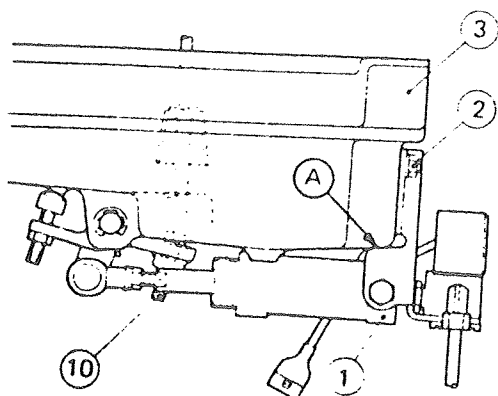

Fig. 31
- 2) Attach cylinder unit 1 to oil pan with bolts 2 making certain that the part A contacts oil pan. (Fig. 31)
- 2) Turn stopper 10 (Fig. 31) to the right for longer stroke and to the left for shorter, and lock nut 9 after getting the stroke you need.